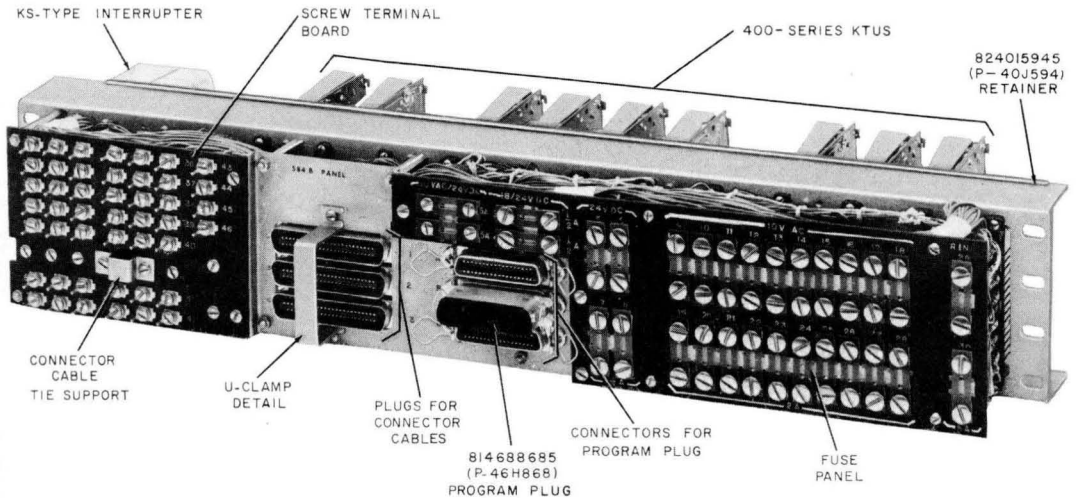

Fig. 1—584B (MD) Panel, Rear View
B. 584B (MD) and 584C Panels
2.09 These panels (Fig. 1 and 2) are similar in capacity and function to the 584A (MD) panel. The 400-series KTUs and the KS interrupter must be ordered separately.
2.11 All line and station wiring is factory-wired from the connectors to three 50-contact KS-type plugs numbered 1, 2, and 3 (Fig. 1 and 2) on the rear of the panel; this permits use of
2.14 The 584C panel features a combined fuse panel and screw terminal field while the 584B panel has a separate fuse panel and screw terminal field (Fig. 1). The panels are equipped
2.18 The three 34-contact connectors on the 584B panel lettered A, B, and C (Fig. 1) serve